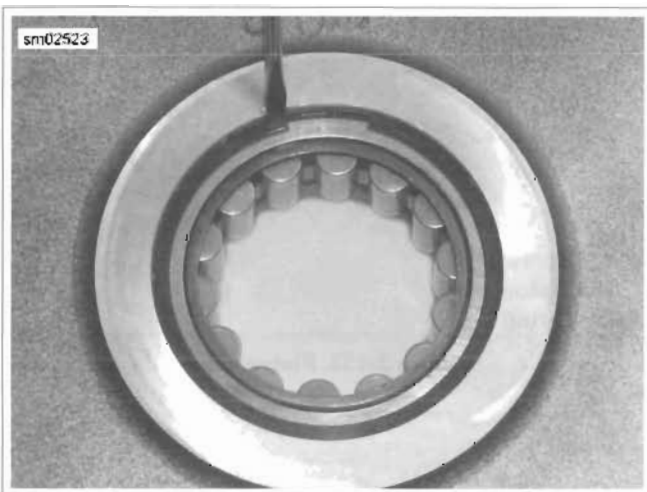

Figure 3-134. Removing Retaining Ring
5. See Figure 3-134. Using a flat blade screwdriver, carefully lift edge of bearing retaining ring up out of its groove in crankcase.